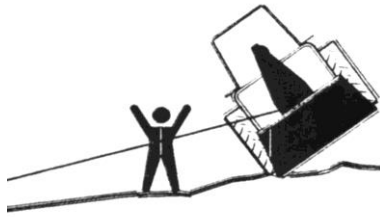

Figure 4
27. On uneven terrain or when not observing the maximum allowed towing angle there is a danger of the winch rolling over (Figure 4).